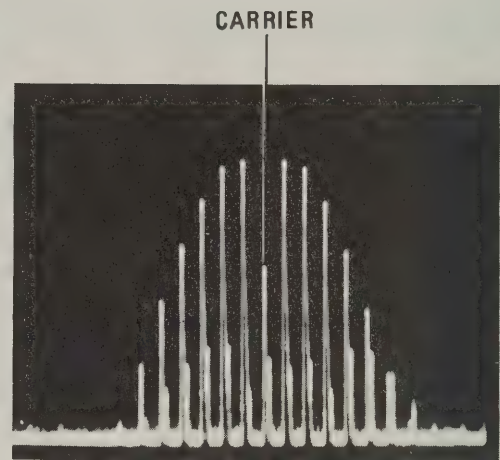

Figure 4-19. Spectrum Analyzer Display of First Carrier-Null with 2.1 MHz Modulation Frequency
- m. Set function generator frequency to 2.1 MHz and amplitude to minimum. Increase function generator amplitude to produce first carrier null as shown in Figure 4-19. This point is ± 5 MHz deviation.